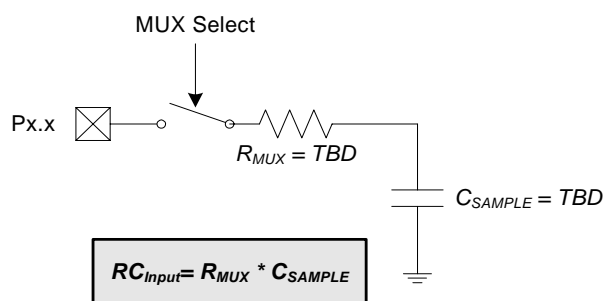

Figure 5.6. ADC0 Equivalent Input Circuits
Figure 5.6 shows the equivalent ADC0 input circuit. The required ADC0 settling time for a given settling accuracy (SA) may be approximated by Equation 5.1. See Table 5.1 for ADC0 minimum settling time requirements.